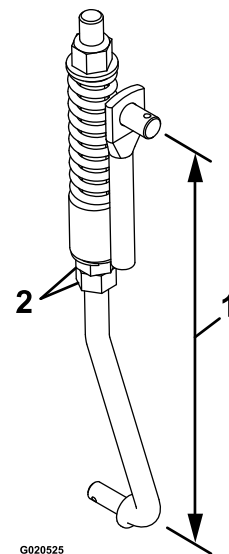

Figure 48
8. Adjust the linkage length with the 2 nuts at the bottom of the vertical spring assembly (Figure 48).